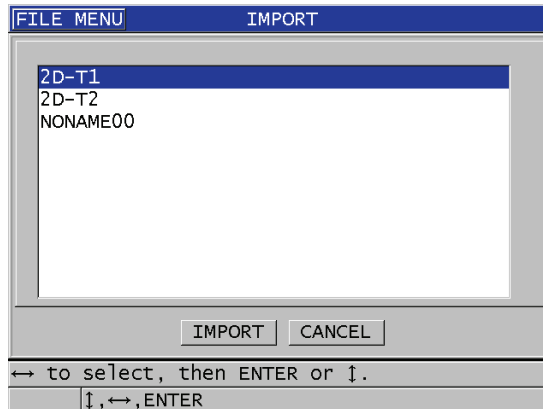

Figure 14-6 Example of the IMPORT screen
6. In the **IMPORT** screen (see Figure 14-6 on page 251):